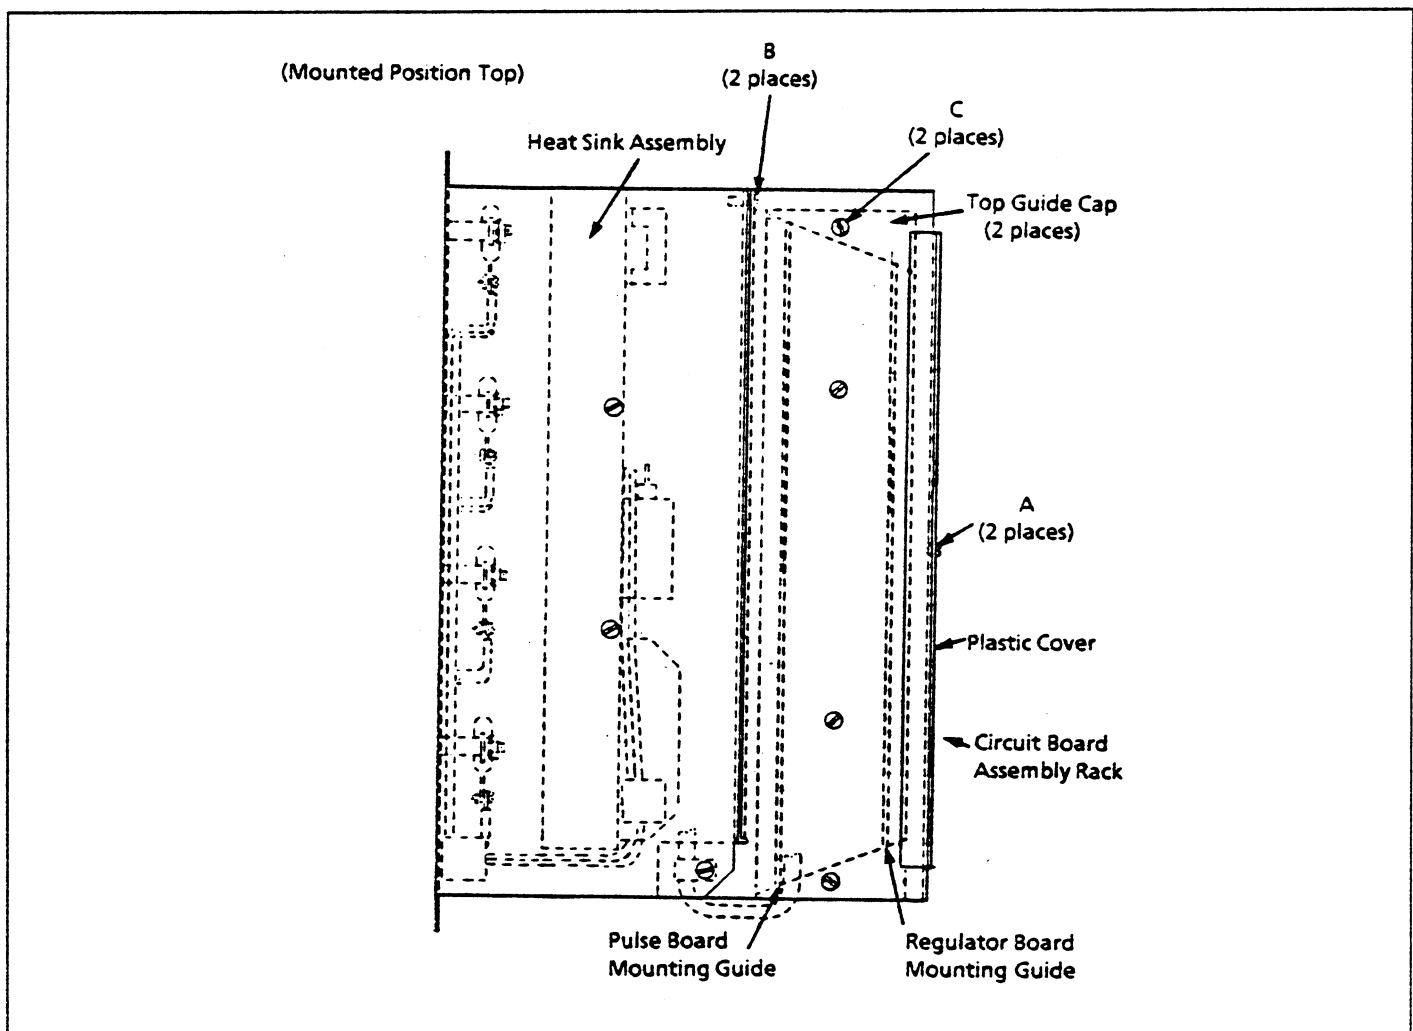

Figure 1. Left Side View of Module
2. Remove the plastic cover by removing the #8-32 X 1/4" slotted machine screw (labeled A, Figure 1) from each side of the Module chassis.
4. Remove the (2) #8-32 X 1/4" slotted machine screws from the top of the Circuit Board Assembly Rack as indicated in Figure 1. The Circuit Board Assembly Rack may now be swung down 90° to allow access to the Regulator Board (see Figure 1).
6. Remove the (2) top card guide caps by removing the #8-32 X 1/4" slotted machine screws (labeled C, Figure 1) from each cap.
8. Swing the Circuit Board Assembly Rack upward into position and replace one (1) #8-32 X 1/4" slotted machine screw (labeled B, Figure 1) on the installed top of the Assembly Rack.
2. Swing the Assembly Rack upward into position and replace one #8-32 X 1/4" slotted machine screw (labeled B, Figure 1).
6. Replace the two top card guide caps using the #8-32 X 1/4" slotted machine screws (labeled C, Figure 1).
8. Swing the Assembly Rack upward into position and replace the two #8-32 X 1/4" slotted machine screws (labeled B, Figure 1) on the installed top of the Assembly Rack.
10. Replace the plastic cover, securing the #8-32 X 1/4" slotted machine screw (labeled A, Figure 1) on each side of the Module chassis.